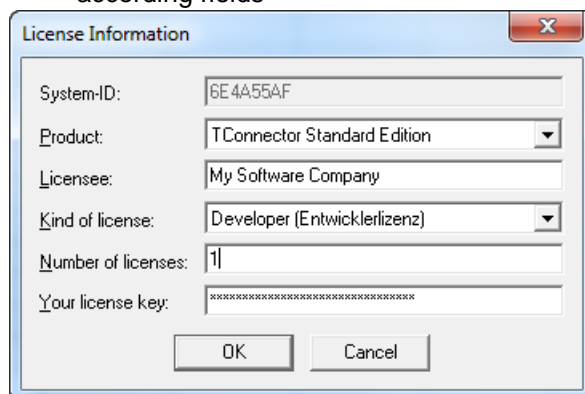

Fig. 10: License dialog
3. The license dialog (Fig. 10) should now open